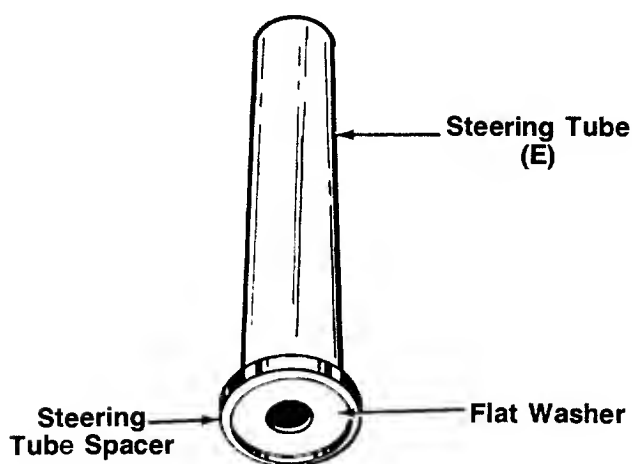

FIGURE 4.—Style A Only
2. Press the large **flat washer** (1-5/8" diameter) into the open side of the black plastic **steering tube spacer**. See figure 4.
3. Press the **steering tube spacer** into one end of the chrome-plated **steering tube** (E). See figure 4.